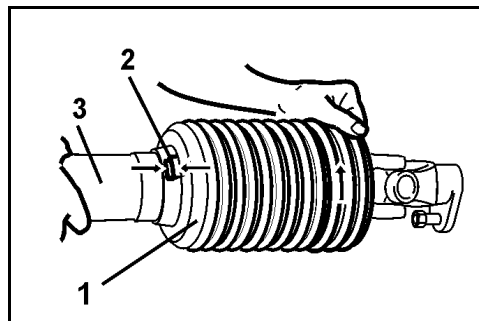

Fig. 45
3. Turn the PTO shaft guard (Fig. 45/1) to the installation position.
4. Pull off the guard half (Fig. 45/3).